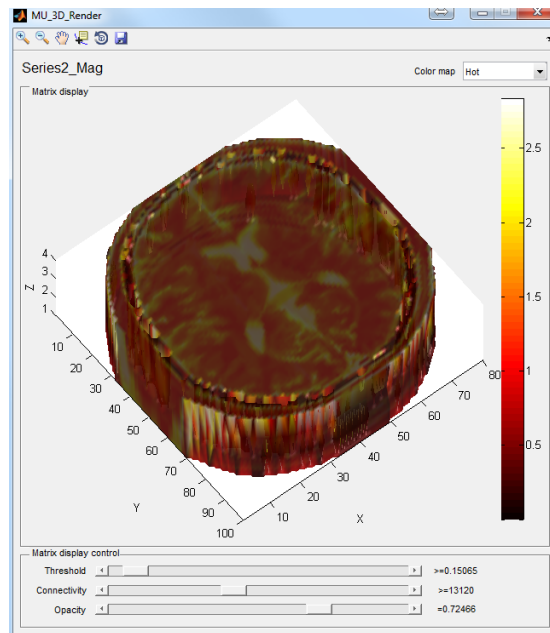

Figure 6.9: An Example of 3D Rendering
-  : Create a 3D graph for rendering Non-zero object in current 3D image matrix (Figure 6.9)